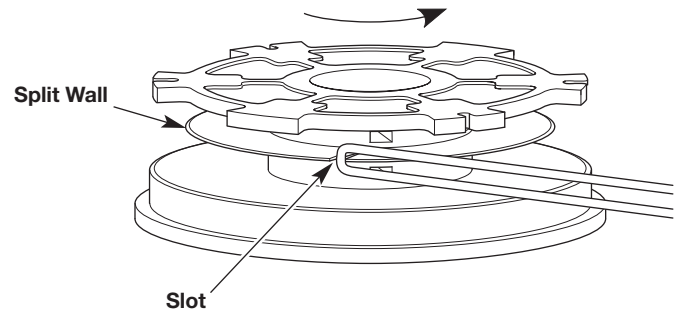

Fig. 13
2. Insert the loop into the slot in the split wall (Fig. 13). Wind the line tightly in the direction shown on the bottom of the inner reel until about 6 inches (150 mm) of line remains. Keep the top half of the line above the split wall and the bottom half of the line below the split wall.